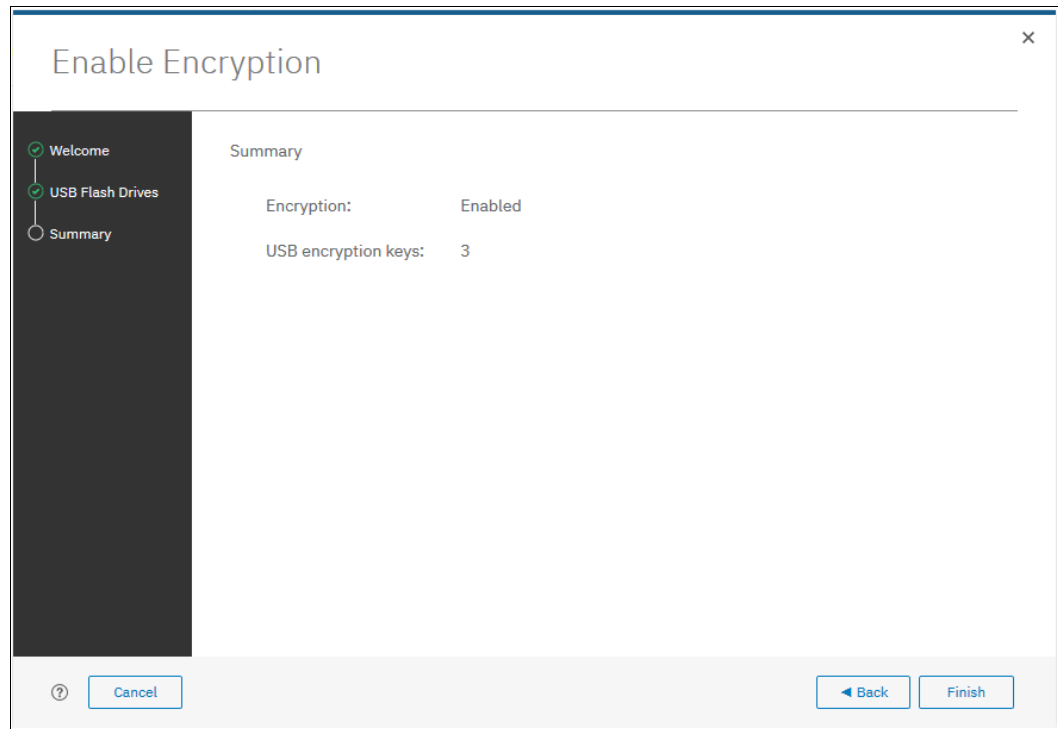

Figure 13-27 Commit the encryption enablement
- The number of keys that were created is shown in the Summary tab, as shown in Figure 13-27. Click **Finish** to finalize the encryption enablement.